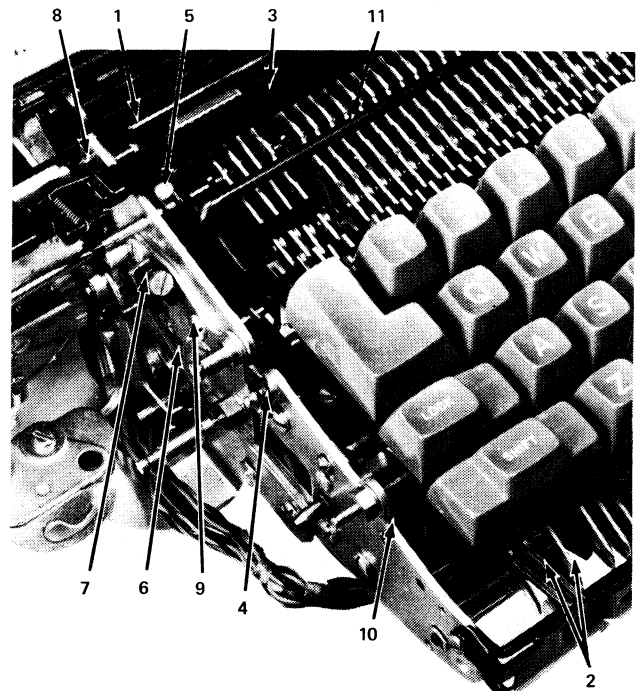

Figure 4-50. Keyboard Removal (Left Side of Keyboard)
2. Remove the guard (snaps off) over the keylever bearing support (No. 1, Figure 4-50).
3. Disconnect the springs (No. 2, Figure 4-50) for the function keys only.
5. Remove the margin rack (No. 3, Figure 4-50).
7. Remove the C-clip from the margin release keylever (No. 4, Figure 4-50).
8. Loosen the margin release bellcrank and push it to the left (No. 5, Figure 4-50).
9. Remove the bellringer bellcrank spring (No. 6, Figure 4-50).
10. Remove the bellringer bellcrank (No. 7, Figure 4-50).
11. Use a follower rod and push the pivot rod (No. 8, Figure 4-50) to the right until the margin release keylever is free. Remove the keylever.
12. Remove the LH plate on the bellringer bail (no. 9, Figure 4-50).
16. Using a follower rod, push the keylever pivot rod (No. 8, Figure 4-50) out until the keylever is free.
17. On keylevers with keylever pawl leaf springs: Disengage the leaf spring from the keylever to be removed. Using a follower rod, move the keylever upstop (No. 10, Figure 4-50) to the right until the keylever to be removed is free.